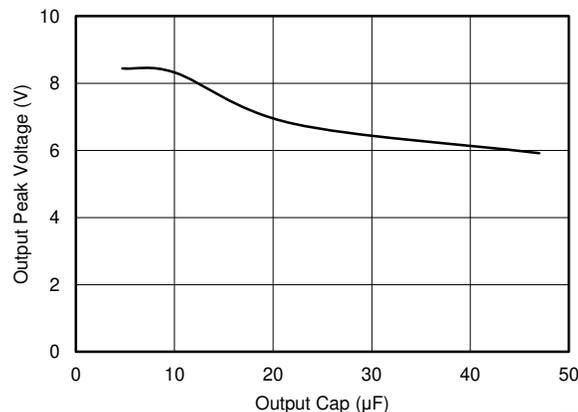

Figure 9-3. V_{OUT} Peak Voltage vs C_{OUT} (V_{IN} Step From 5 V to 15 V with 1-V/ μ s Ramp Up Rate)
When V_{IN} ramp up exceed 7.6 V, V_{OUT} follows V_{IN} until the TPS25200 turns off the internal MOSFET after $t_{(OVLO_off_delay)}$. Since $t_{(OVLO_off_delay)}$ largely depends on the V_{IN} ramp rate, V_{OUT} sees some peak voltage. Increasing the output capacitance can lower the output peak voltage as shown in Figure 9-3.
- For output capacitance, refer to Figure 9-3, low ESR ceramic cap is recommended.